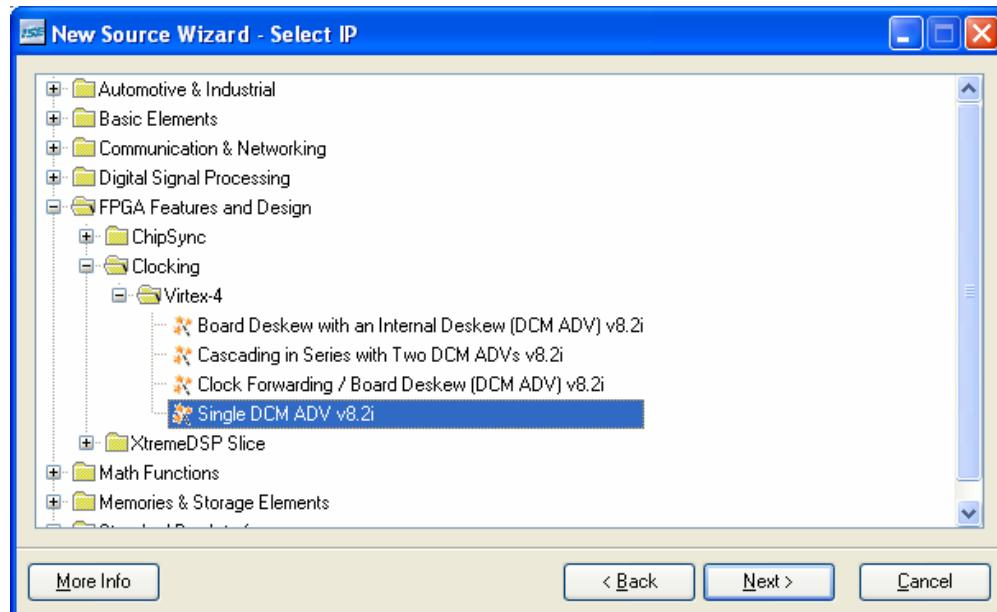

Figure 1i-1. Architecture Wizard Selection Box
- ② In the New Source window, select **IP (COREGen & Architecture Wizard)** and enter **my_dcm** as the file name
- ③ Click **Next**
- ④ In the Select IP window, expand **FPGA Features and Design**, expand **Clocking**, expand **Virtex-4**, and select **Single DCM ADV v8.2i** (Figure 1i-1)